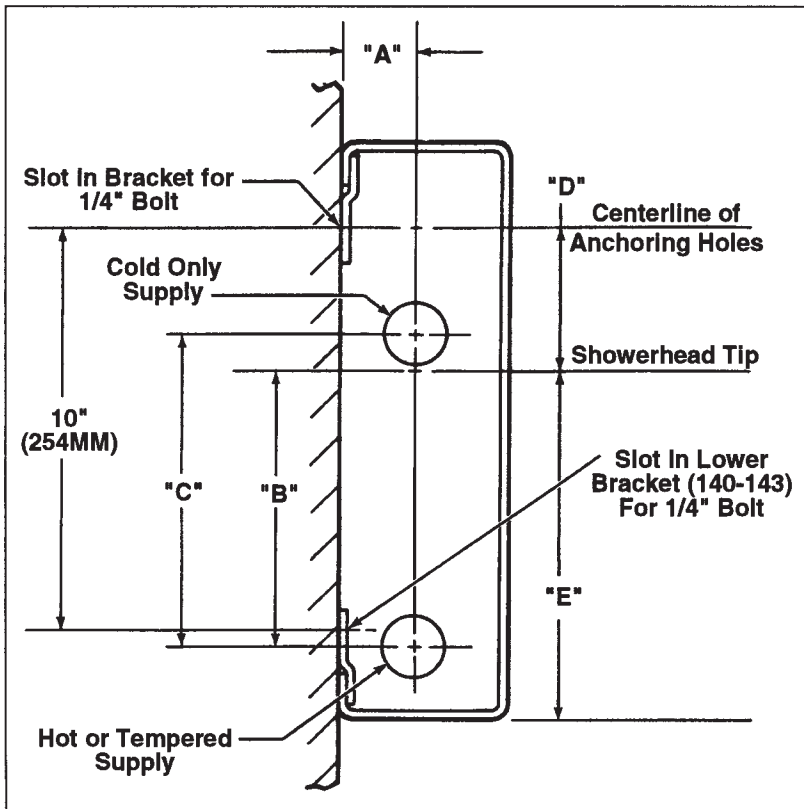
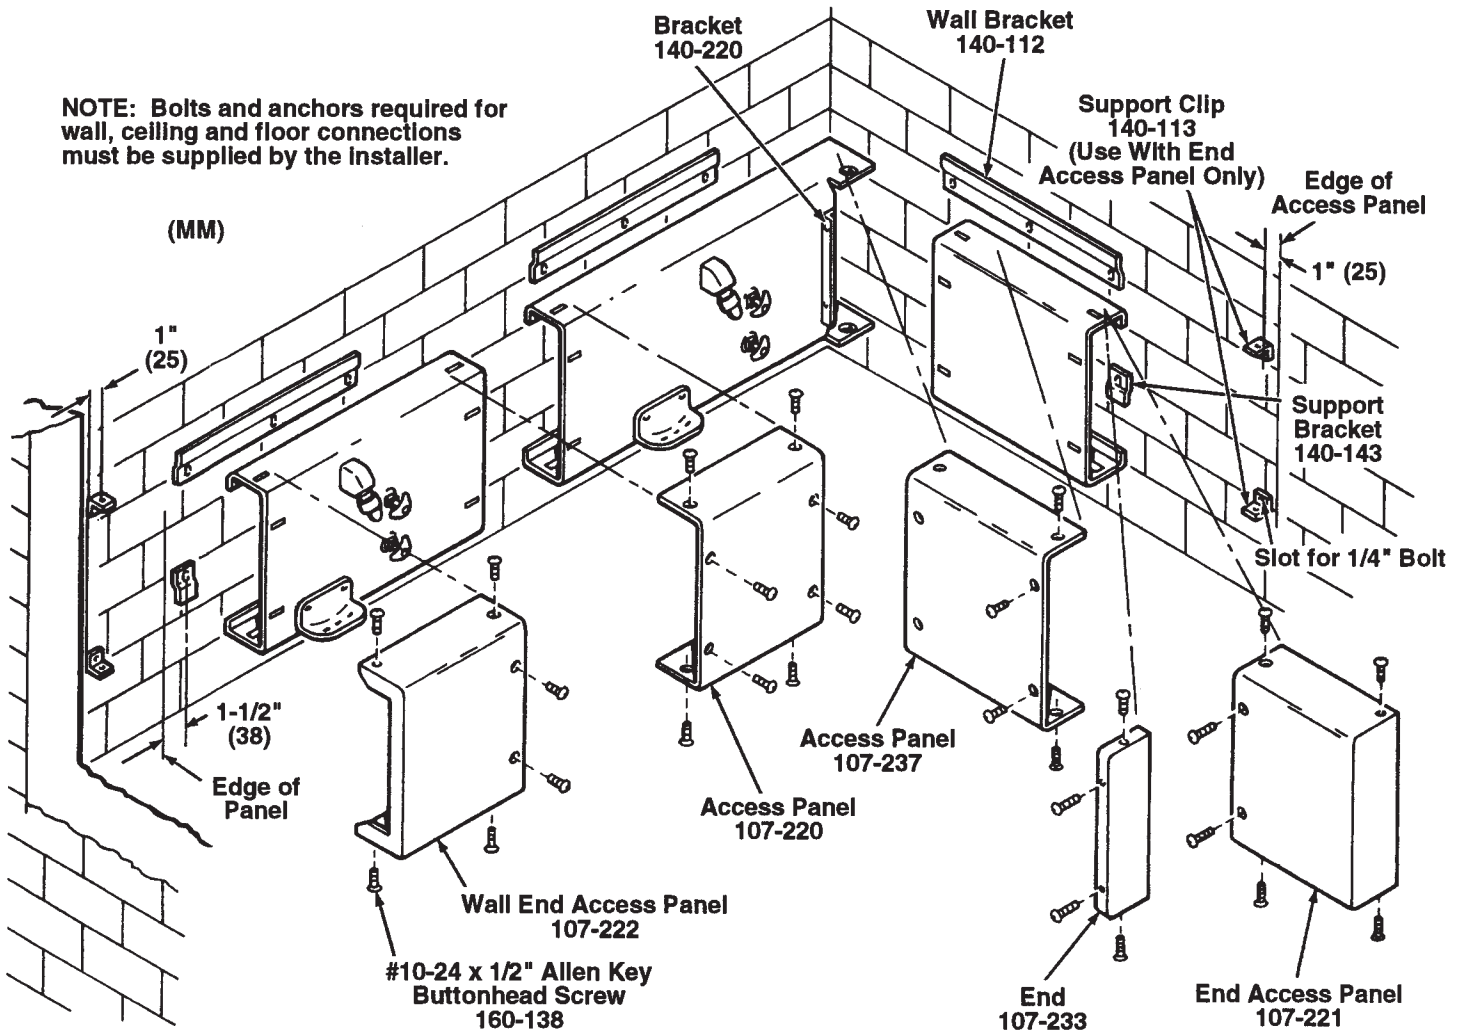

Figure 1
Figure 2
Refer to Figure 1 below and Figure 2 on page 5 when installing your Panelon Showers.
1. Rough-in supply piping to wall showers as shown in Figure 1 below.
3. Measure up from the finished floor to locate the showerhead tip height, then, using "D" dimension (see Figure 1), scribe a horizontal line on the wall indicating the centerline of the anchoring hole for the top wall brackets.
4. Measure down 10" from the centerline of the anchor holes and scribe a horizontal centerline for the lower wall brackets (see Figure 1).
Refer to Figure 1 on page 3 and Figure 2 on page 5 when installing your Panelon Showers.
11. Locate and secure support clips as shown in Figure 2 on page 5. Align the top of the clip with the upper and lower surfaces of the panel.
Use Figure 2 with Installation Steps 1-12 on pages 3 and 4.